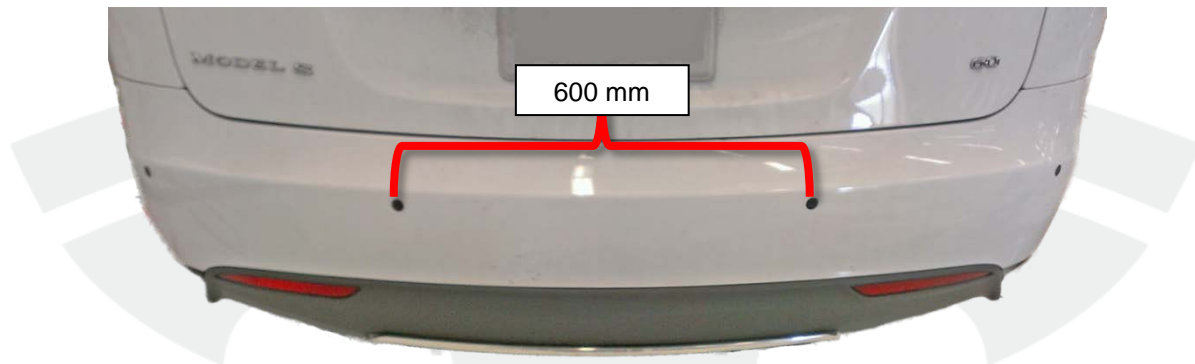

Figure 1 (Updated rear fascia)
- If the sensors are approximately 600 mm apart (Figure 1), discontinue this procedure. Only the rear fascia needs to be replaced.